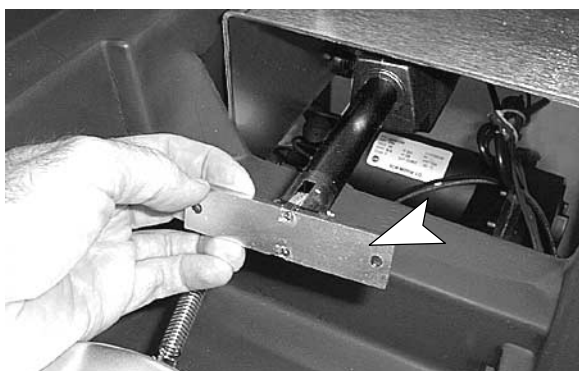

FIG. 2
4. Remove spring bracket from actuator and replace with new spring bracket (Figure 2).